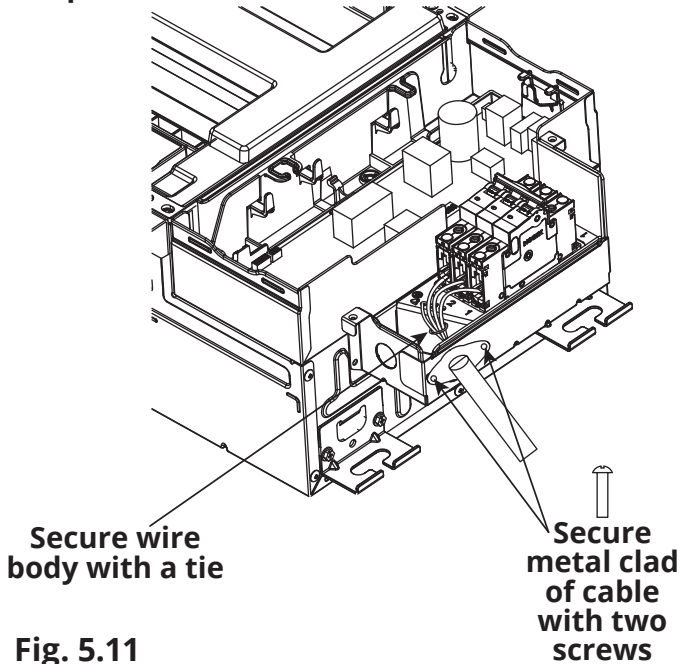

Fig. 5.11
4. Secure the metal clad of the DIYPRO™ Cable to the circuit breaker box with two ST3.9*10 screws. Then, secure the wire body within the circuit breaker box with a tie. Please see Fig. 5.11 below. **NOTE: Three ST3.9*10 screws are provided, but only two are needed to complete this step. The remaining screw is to be kept as a spare.**